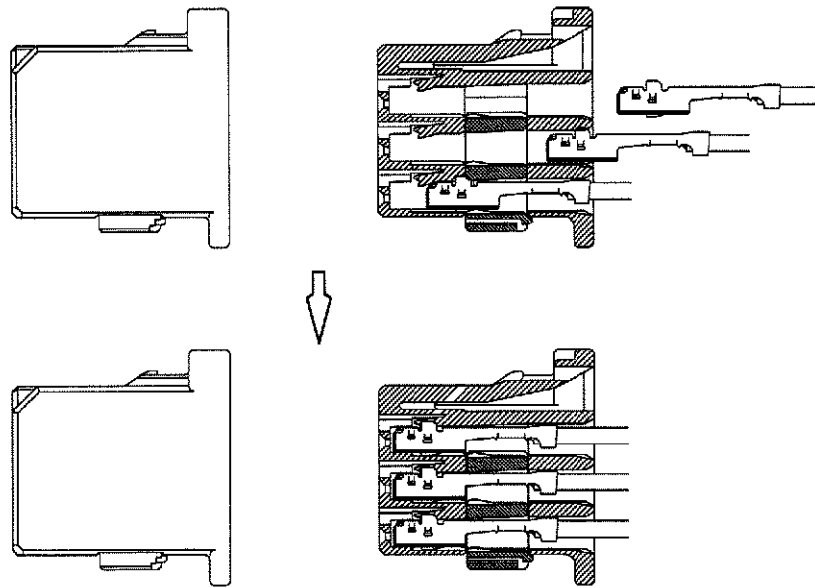

Fig.10
(3) Insert the contacts into the housing with same direction as shown in Fig.10. The insertion is finished when you hear click sound and the contact stops.